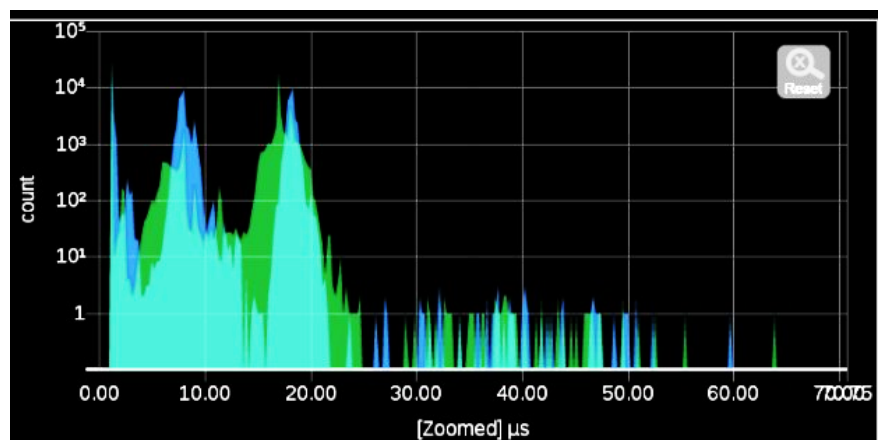

Figure 167: Zooming in on the PIT Histogram graph
- **Pinch and zoom control:** Use the pinch-out gesture on the graph to zoom in. After using the zoom in gesture, the text **Zoomed** will be displayed on the x axis of the graph. (See Figure 167.)